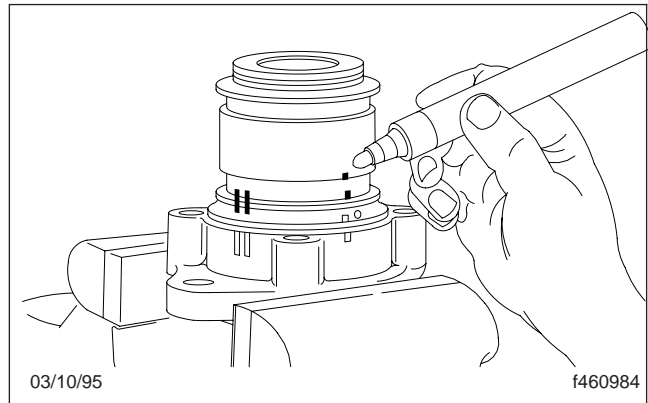

Fig. 8, Marking the Top Plate and the Bottom Plate
7. Using a solvent-proof marker, draw a line across the top plate and the bottom plate. See Fig. 8.